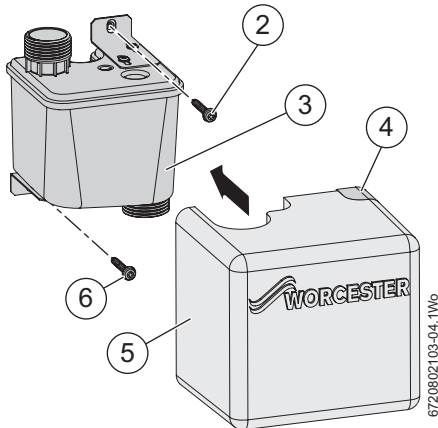
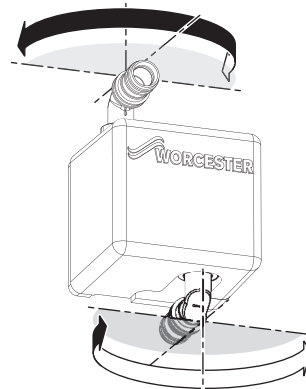

Fig. 4 Wall mounting
Fig. 5 Elbow swivelling range
- ▶ The elbow connectors can be swivelled through 180° to accommodate the pipe work connections, refer to figure 5.
- ▶ Ensure the foam insert (4) is fitted to the foam cover (5).
- ▶ Fit the foam cover over the siphon as shown in figure 4.